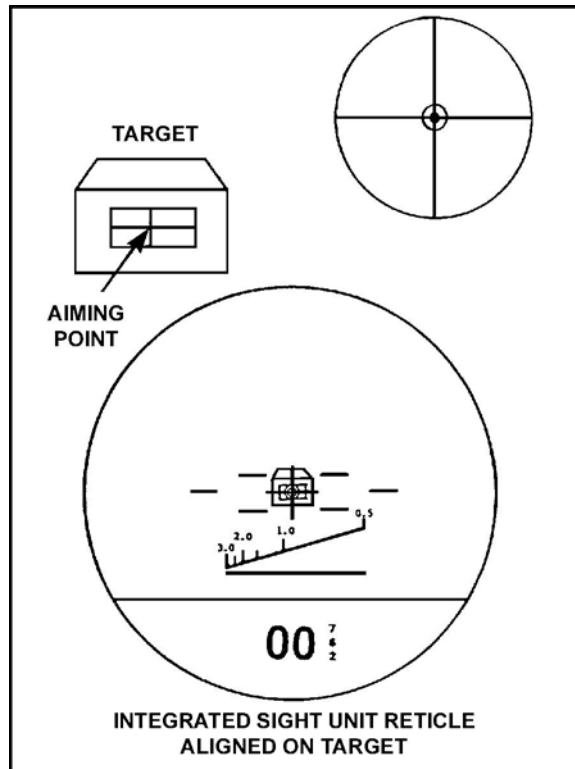

Figure 3. Aiming point image in the boresight reticle.
5. Helper: Look at the aiming point image in the boresight reticle (Figure 3).